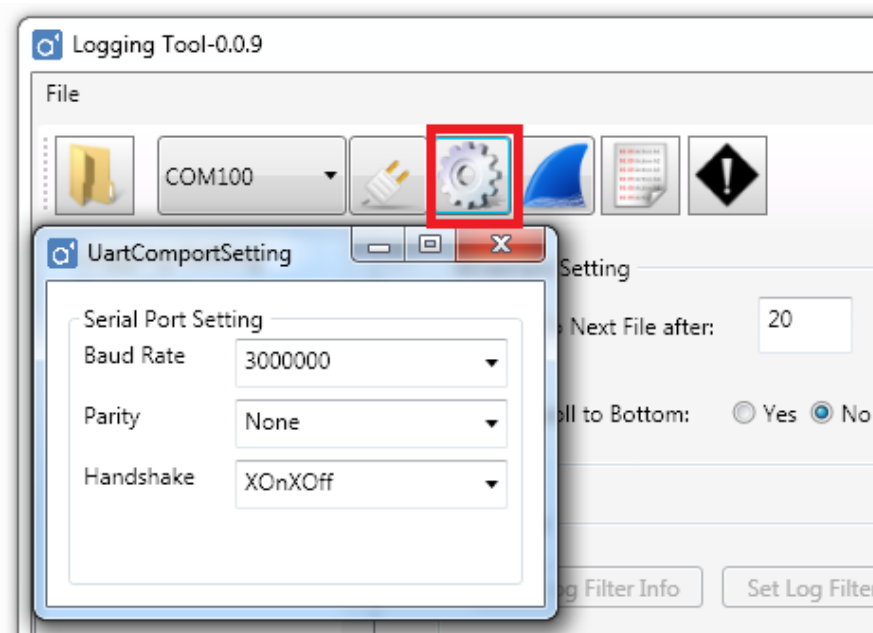

Figure 18. Serial Port Configuration window
- 3) Set the **Baud Rate** as shown in Figure 18.